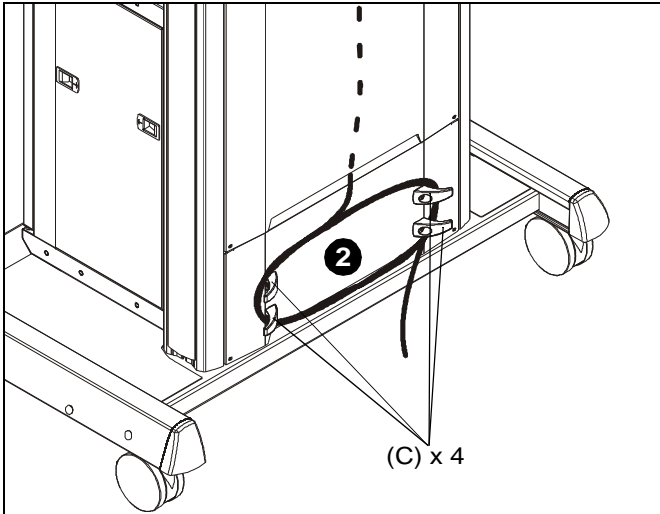

Figure 15
2. Wrap cables around cable hooks (C) as desired. (See Figure 15)